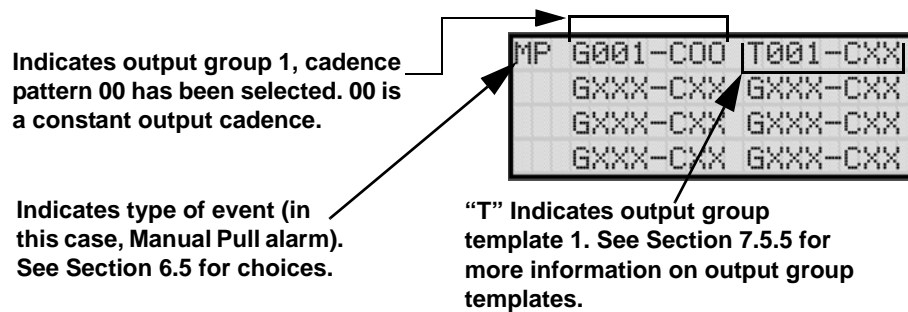

Figure 7-3 Selecting Output Groups/templates and Cadence Patterns for a Zone Event
Note: Abbreviations in the parentheses are the characters that are displayed in programming (see Figure 7-3).
6. From the next screen, a list of 8 event types will display. Select the event type you want to program. A screen similar to the one shown in Figure 7-3 will display. Press **ENTER/ACK**.
8. Select options for each event that could occur in this zone. Figure 7-3 is a complete example of how you might map a zone.